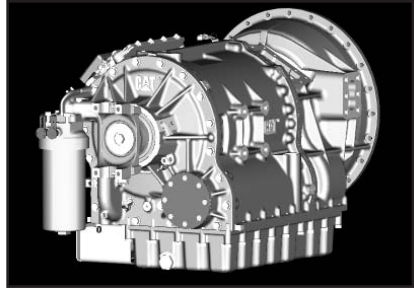

Fig. 13
2. Remove the P.T.O. rear aperture plate with an 18 mm socket. (Fig. 13)